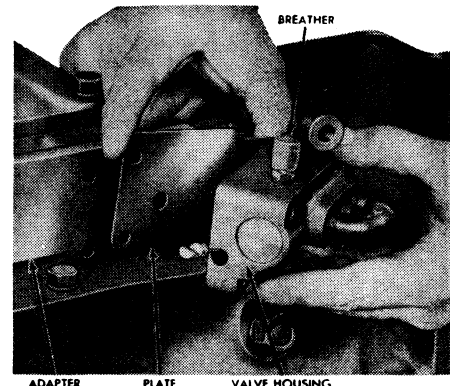

Fig. 7 Air valve and plate
5. Remove air valve and plate, Fig. 7.